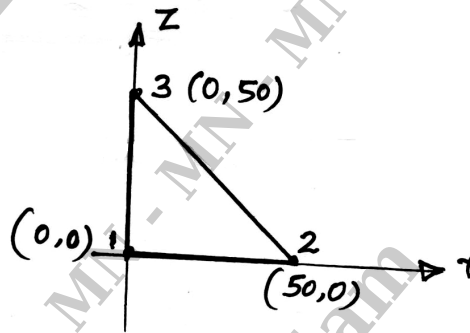

Fig Q9(b)
- b. For the axisymmetric element shown in Fig Q9(b), determine the strain displacement matrix [B]. Take $E = 200\text{GPa}$, and $\nu = 0.3$